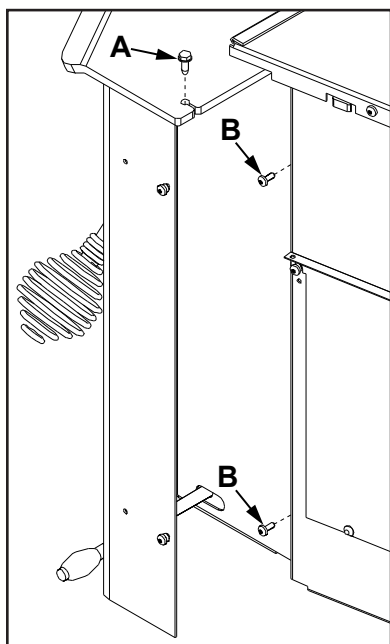

Figure 49: Removal of right pod.
4. Remove the screw, using a $\frac{5}{16}$ " socket or wrench, that goes down through the firebox top into a bent over tab at the top of the shroud (see A in Figure 49).
- b. For the second method (recommended for the right shroud), remove the two (2) T-20 screws that hold the shroud to the unit (see B in Figure 49). Pull the shroud out through the side.